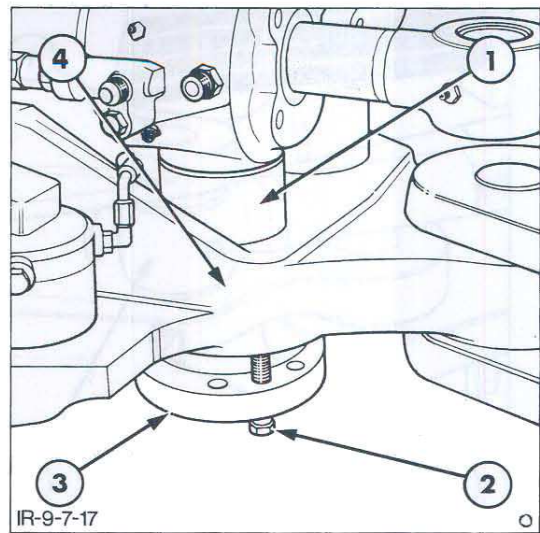

Figure 17
6. Using suitable bolts in the jack threads provided, jack out the trunnion retainers, Figure 17.